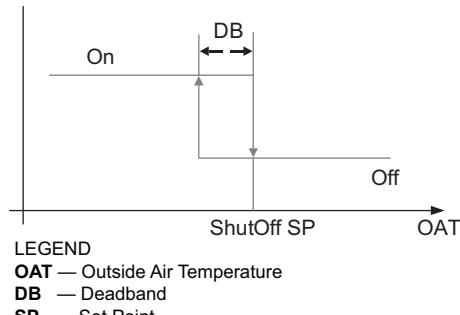

Fig. 71 — Hysteresis Settings
Hysteresis setting (DB) defaults to 2°F (−17°C). See Fig. 71.